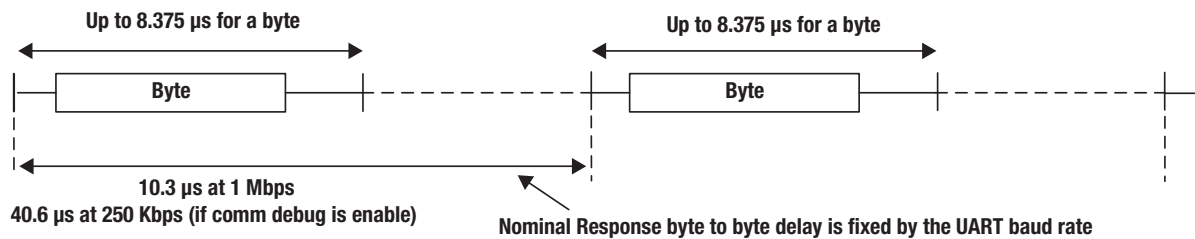

Figure 4. BQ796xx byte-level communications.
Going deeper into the TI protocols used in both solutions, the wired solution uses a differential, bidirectional and half-duplex interface, and therefore has a transmitter (TX) and receiver (RX) on both the high- and low-side communication interfaces to propagate information from low to high by default. These TX and RX functions are controlled automatically by the hardware based on the device's base or stack detection, and the data is re-clocked as it propagates to each module. The RX topology of the BQ796xx devices is similar to RS-485 but with added design mechanisms to attenuate high common-mode voltages caused by the noisy conditions typical in vehicle environments. Each byte transmits at 2 MHz (250 ns per pulse or 500 ns per couplet). As shown in Figure 4, the time between each byte depends on the UART baud rate (1 Mbps in normal operation), but the byte time is always the same.